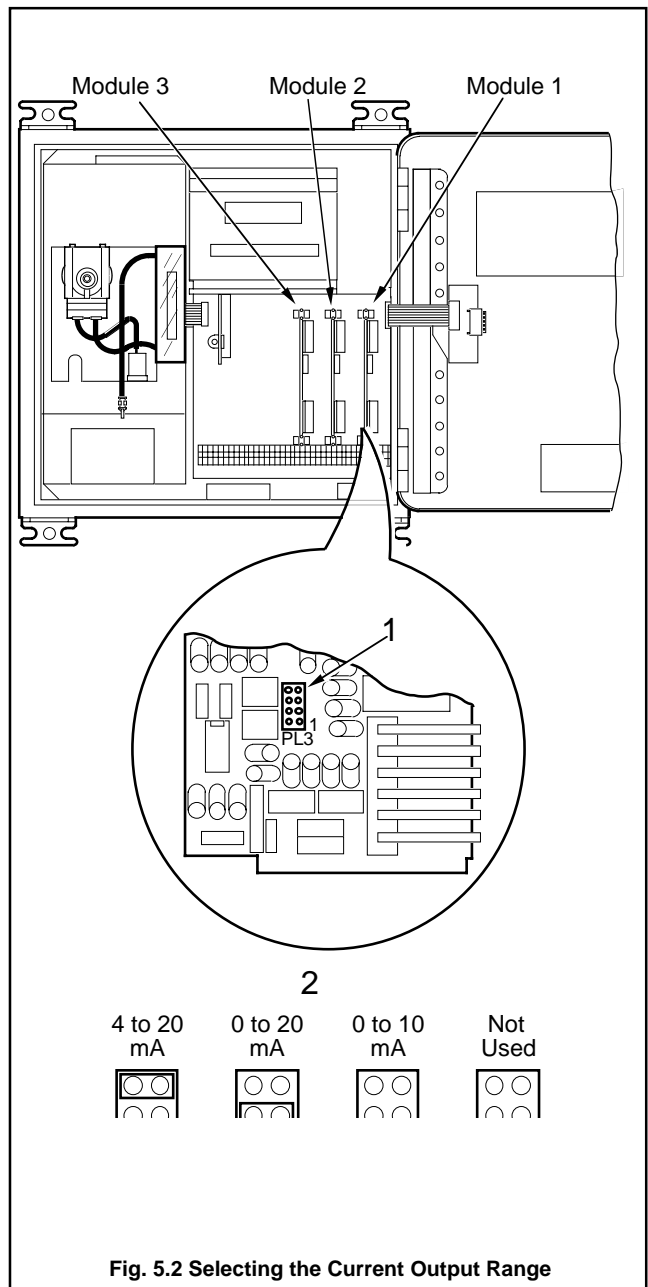

Fig. 5.2 Selecting the Current Output Range
5.2 Selecting the Retransmission Output Range(s) – Fig. 5.2